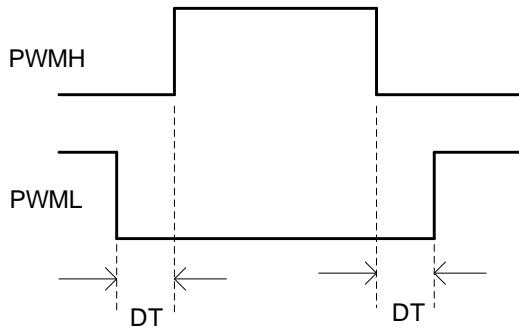

Figure 4: PWM Input Dead Time Timing
The PWMH and PWML pins are independently controlled logic inputs that can withstand up to 5.5V. Float PWMH or PWML if not used. If both PWMH and PWML control the high-side MOSFET (HS-FET) and low-side MOSFET (LS-FET) of the same bridge, then set a sufficient dead time (DT) between PWMH and PWML to avoid shoot-through (see Figure 4).